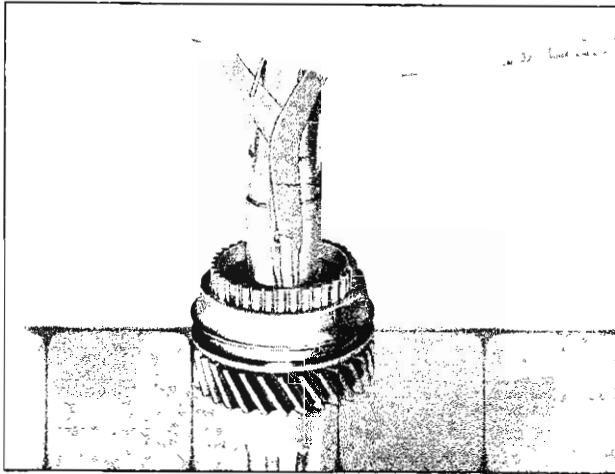

Fig. 15M—Removing 1-2 Speed Synchronizer Clutch Assembly Retainer Snap Ring
18. Remove 1-2 speed synchronizer clutch assembly retaining snap ring (fig. 15M) and remove 1-2 synchronizer assembly, second speed synchronizer ring and second speed gear from mainshaft.